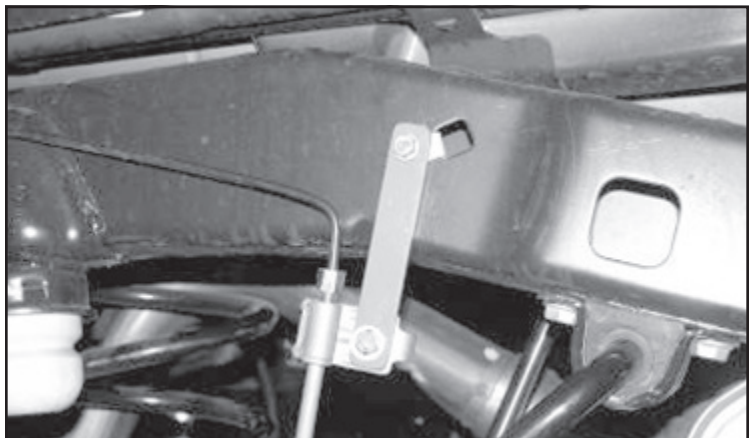

FIGURE 50 - STEP 32
32. Locate FT50295 Rear Brake Line Drop Bracket, supplied ¼" hardware, and factory rear brake line hardware. Attach the drop bracket to the factory mount with the factory hardware. Attach the factory brake line bracket to the new drop bracket with the ¼" hardware. Torque to 10 ft-lbs. **SEE FIGURE 50**